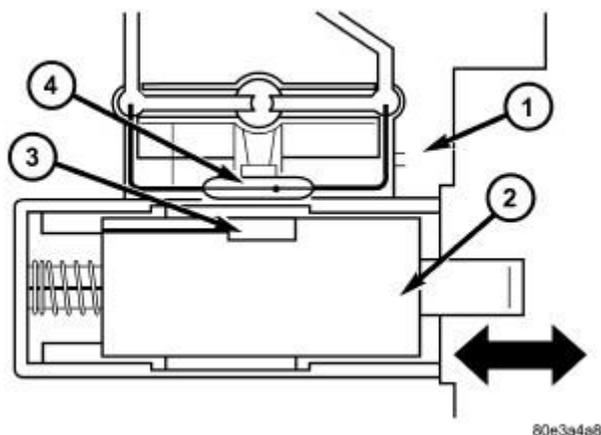

Fig. 154: Cutaway View Of Park/Neutral Contact
The park/neutral contact (4) is located in the shell of the electric control unit and is fixed to the conductor tracks. Refer to **Fig. 154**.